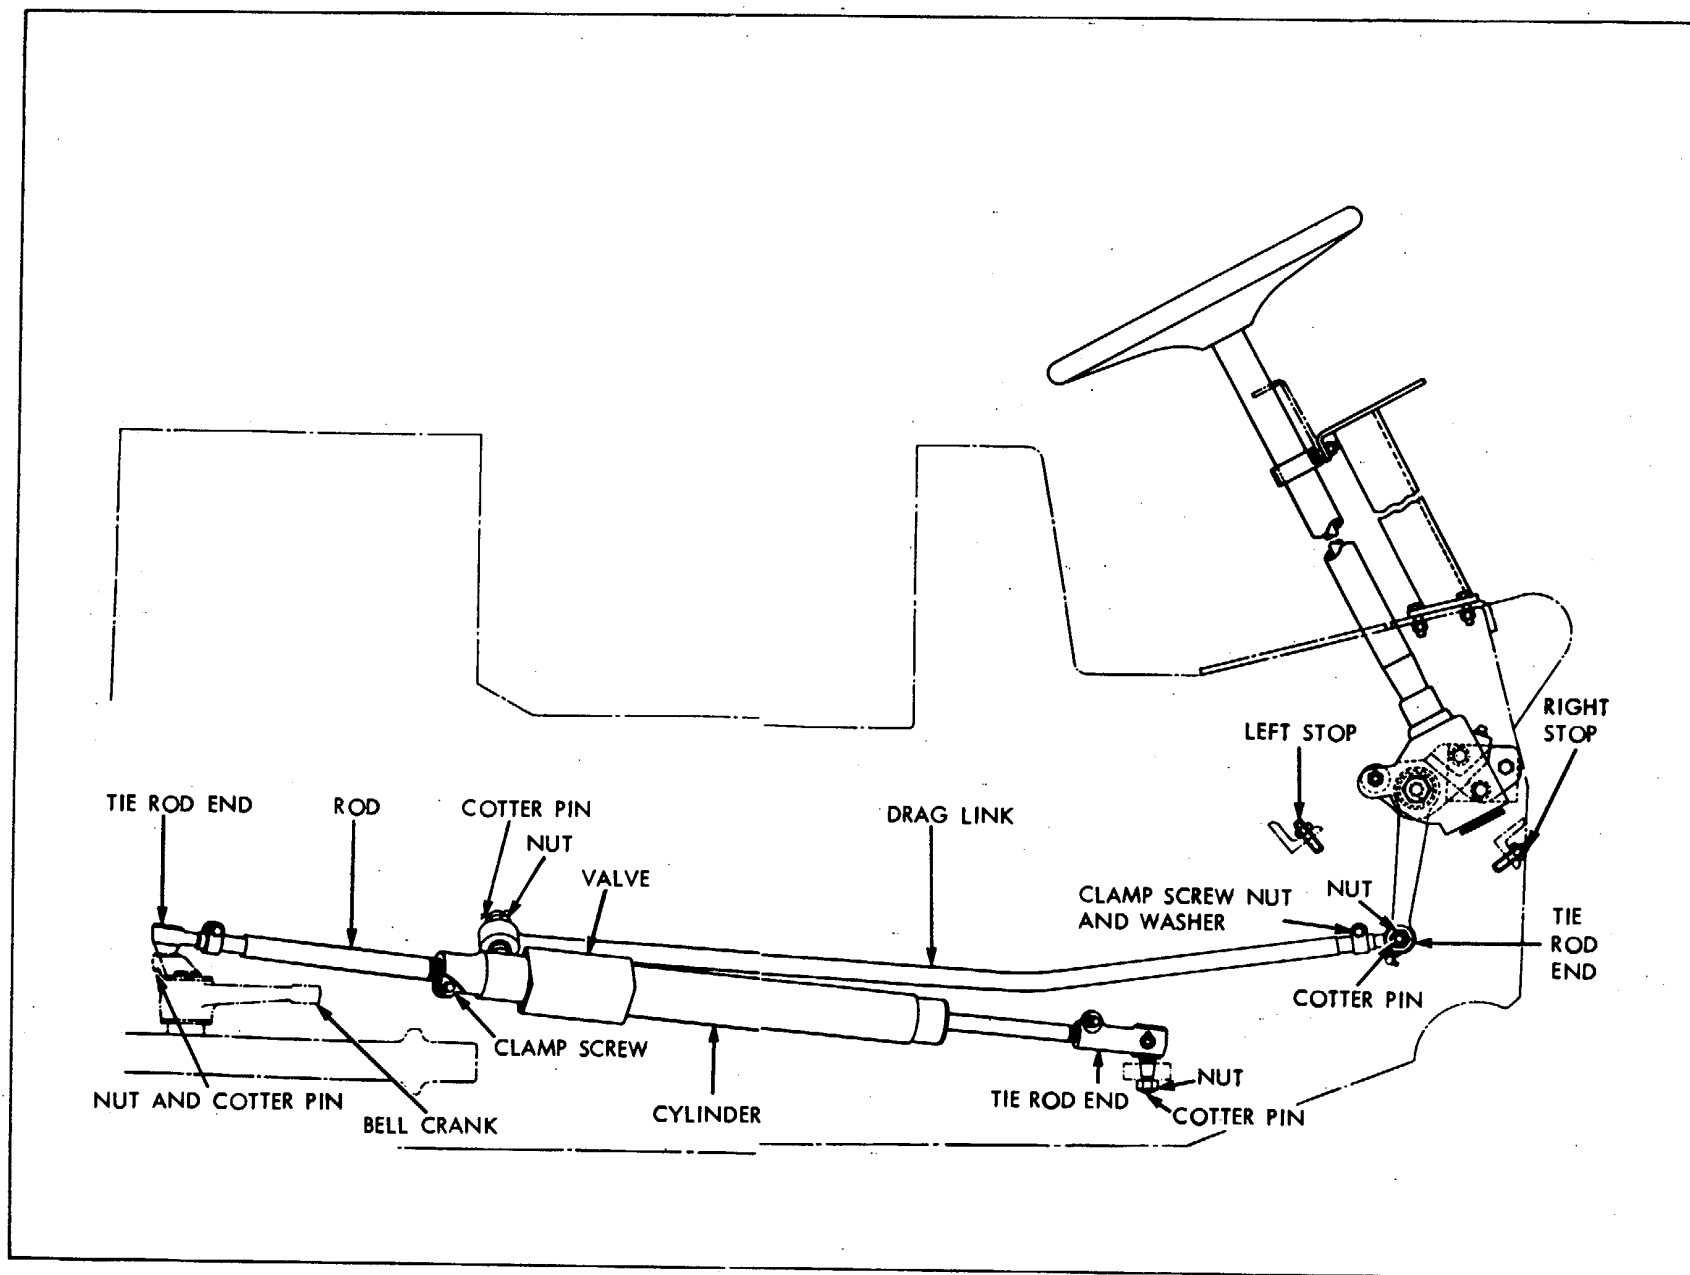
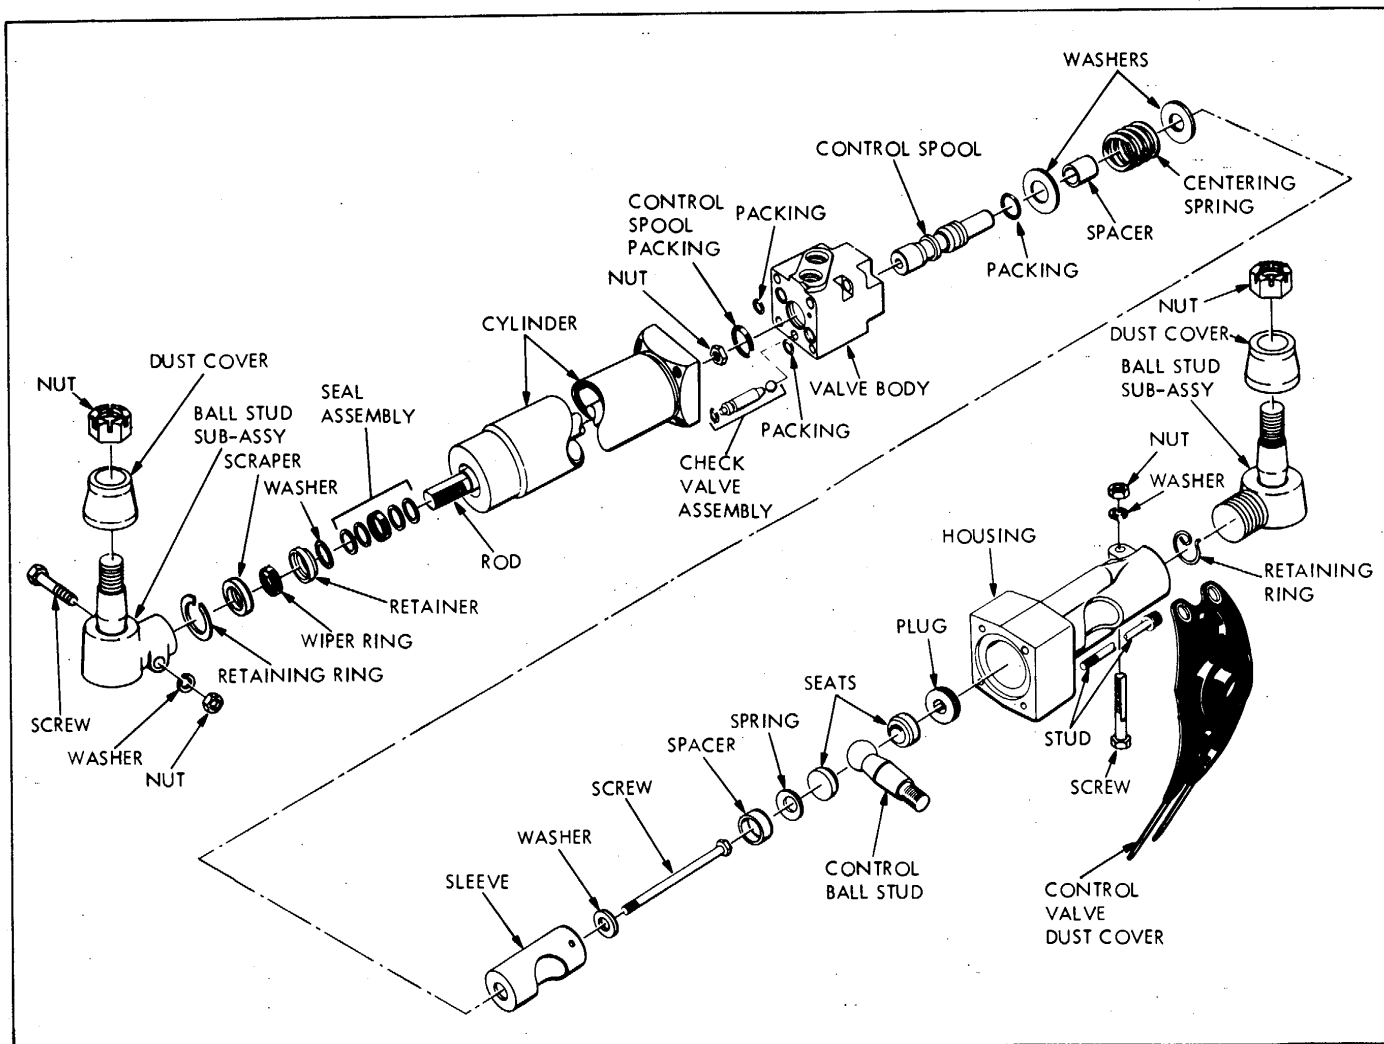

Figure 6-12. Steering Linkage
Figure 6-13. Control Valve Disassembly
(1) Disconnect, cap and tag hoses at cylinder.
(2) Remove hose clamp holding hoses to cylinder, disconnect drag link end at cylinder (Figure 6-12).
(3) Remove cotter pins and nuts attaching front and rear ends of cylinder to truck and remove cylinder.
b. Control valve disassembly (see Figure 6-13). Do not disassemble a unit further than is necessary to correct a malfunction. During disassembly, special attention should be given to identification of parts for proper reassembly. Place all disassembled parts on a clean, lint-free surface for inspection. Carefully remove any burrs by light stoning with a medium India stone. Clean all parts except packing and seals in a clean mineral oil solvent. After drying thoroughly, lay the parts on a clean, lint-free surface. All internal oil passages of the unit must be thoroughly cleaned. All packing and seals should be replaced for reassembly. Soak them in hydraulic fluid prior to being used. Refer to Figure 6-13 and proceed with disassembly.
Immerse all parts in clean hydraulic fluid to facilitate reassembly. Refer to Figure 6-13 and proceed with reassembly. Be sure that all oil seals, wipers, and packing are discarded and replaced with new parts for reassembly. Remember that a seal can only do its job when properly seated to prevent fluid leakage and entrance of air into the system. Coat all seals with liberal amounts of GAA or petroleum jelly prior to assembly.
(1) Assemble front tie rod end (figure 6-12) on cylinder so that the thread engagement is approximately 1-1/2 inches.
(2) When performing adjustments in (3) and (4) below, there should be no restraint on cylinder or pitman arm due to stops on trailing axle. To insure this, rear tie rod end
a. Removal. Raise truck. Working from below, remove the cotter pins and nuts (Figure 6-12) at each end of the drag link and remove the drag link.